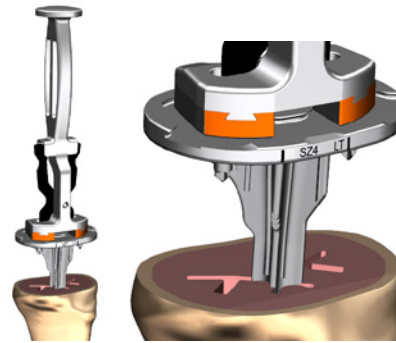

Figure 61
- 2 Align the porous tibia implant with the prepared tibia. Take care to ensure implant keel is appropriately aligned within the prepared slots (Figure 61).